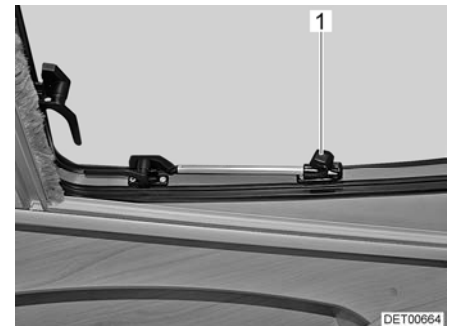

Fig. 69 Roof window with rotary hinges, open
- Open the roof window until the required position has been reached and use knurled knob (Fig. 69,1) to secure in position.
- Turn knurled knob (Fig. 69,1) until the latch is released.